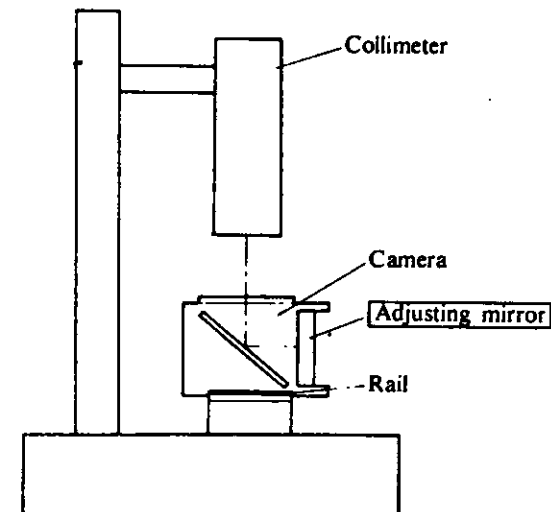

Fig. 53
3. 45° mirror (see Fig. 53, 54)
- 1) For a 45° mirror adjustment, use a collimeter and set the camera as shown in Fig. 53.